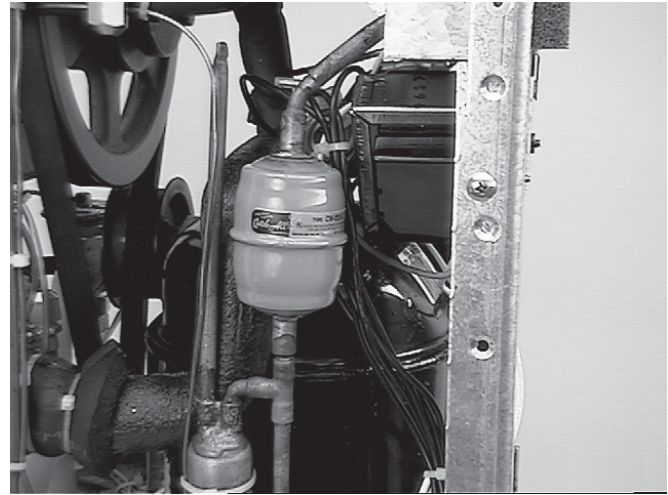

Figure 21. Drier
9. Remove the dryer by unsweating the refrigeration lines then with an open port sweat in the replacement dryer. Make certain the arrow points in the direction of flow. Figure 21.